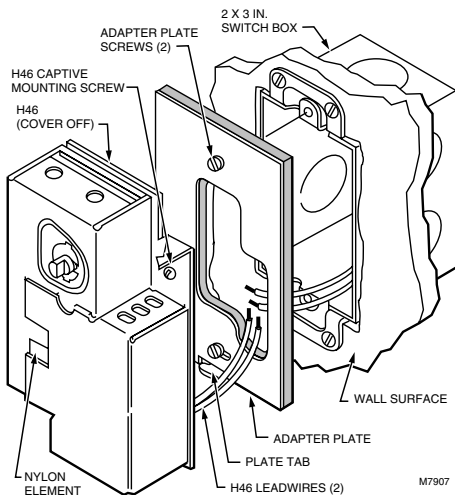

Fig. 1. Mounting H46D on vertical switch box.
4. Using the two screws provided, fasten the adapter plate to the switch box as shown in Fig. 1.